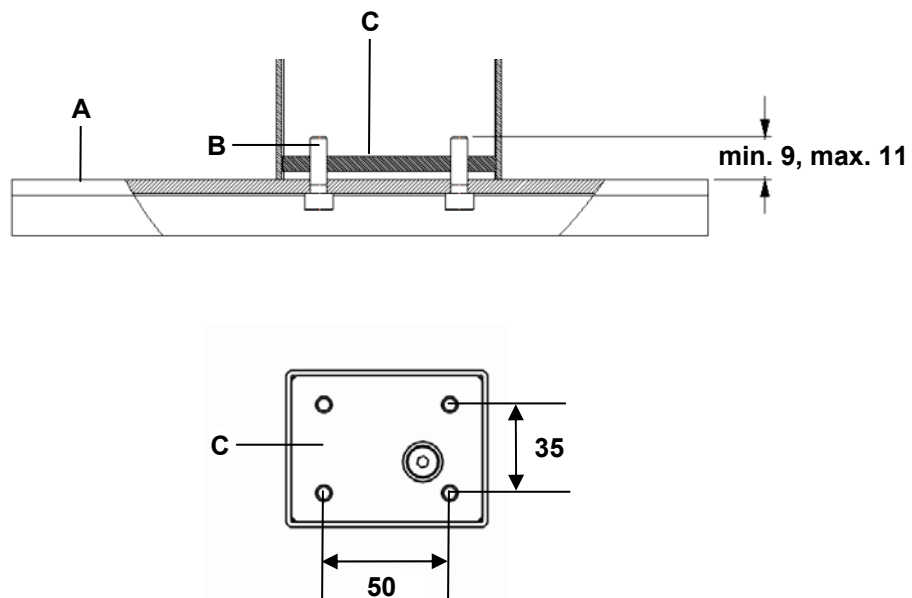
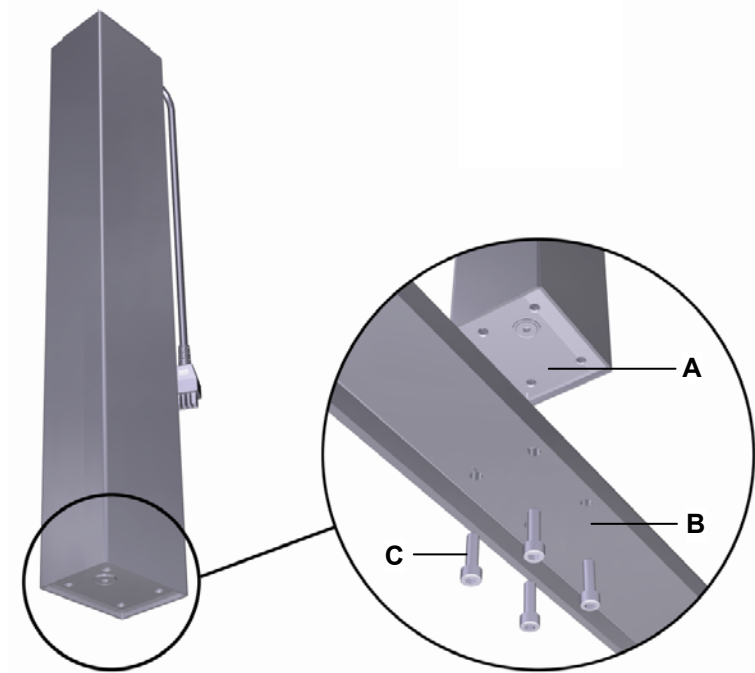

Figure 7 Mounting table stand: Screw depth and mounting dimensions (in mm)
Figure 8 Mounting table stand
- Use screws M6 (grade 8.8) of suitable length so that the depth is at least 9 mm and a maximum of 11 mm, as shown in Figure 7 (screw length = thickness of the base plate + min. 9 to max. 11 mm). The tightening torque must not exceed 10 Nm.
- 1 Screw to the table base with four screws at the foot of the lifting column Inlinedrive ID11, as shown in Figure 8 (maximum tightening torque = 10 Nm). The mounting dimensions are shown in Figure 7.